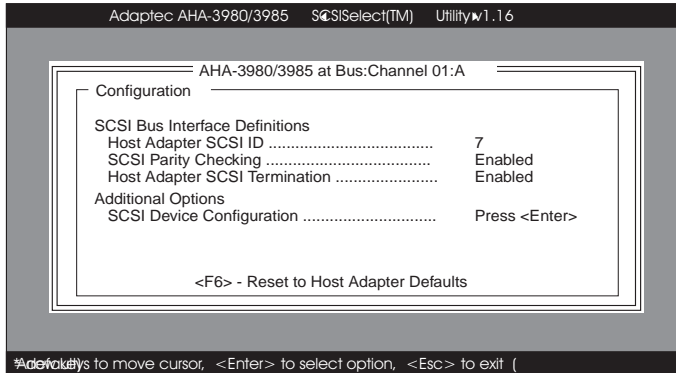

Figure 13-34. Configuration Menu
- From the Options menu, select **Configure/View Host Adapter Settings**. The Configuration menu appears, as shown in Figure 13-34.